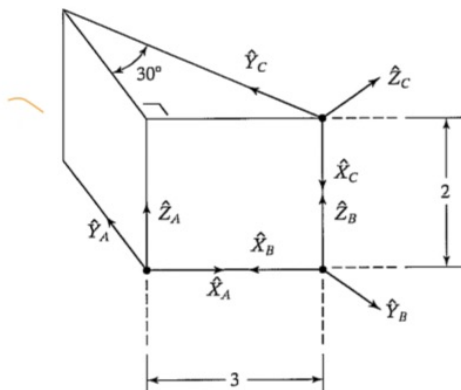

FIGURE 2.25: Frames at the corners of a wedge.
- 2.27 [15] Referring to Fig. 2.25, give the value of ${}^A B T$.
- 2.28 [15] Referring to Fig. 2.25, give the value of ${}^A C T$.
- 2.29 [15] Referring to Fig. 2.25, give the value of ${}^B C T$.
- 2.30 [15] Referring to Fig. 2.25, give the value of ${}^C A T$.